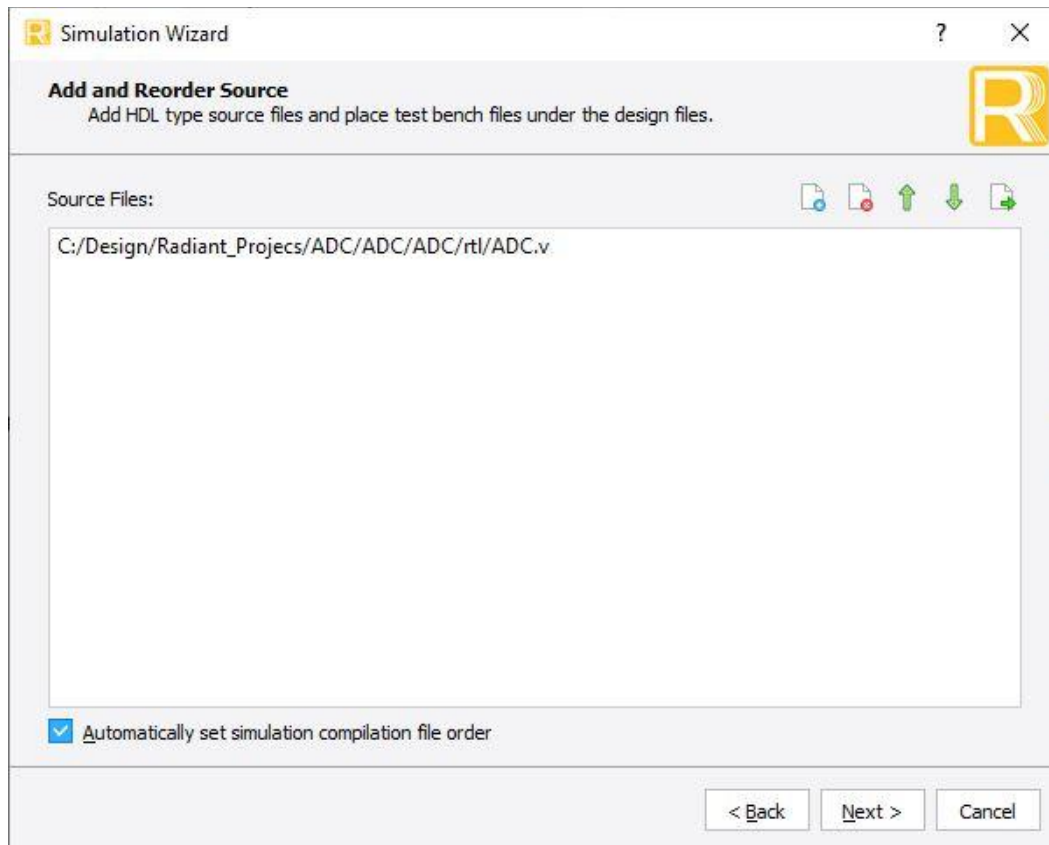

Figure 3.5. Adding and Reordering Source
3. Double-click **Next** to open the Add and Reorder Source window as shown in Figure 3.5.